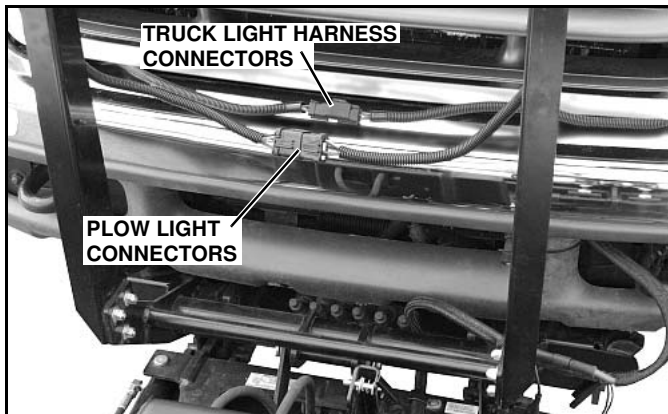

Figure 1-23
7. Unplug light harness connectors on truck, and disconnect plow light connectors, which had been plugged together for corrosion protection during storage (See Figure 1-23).